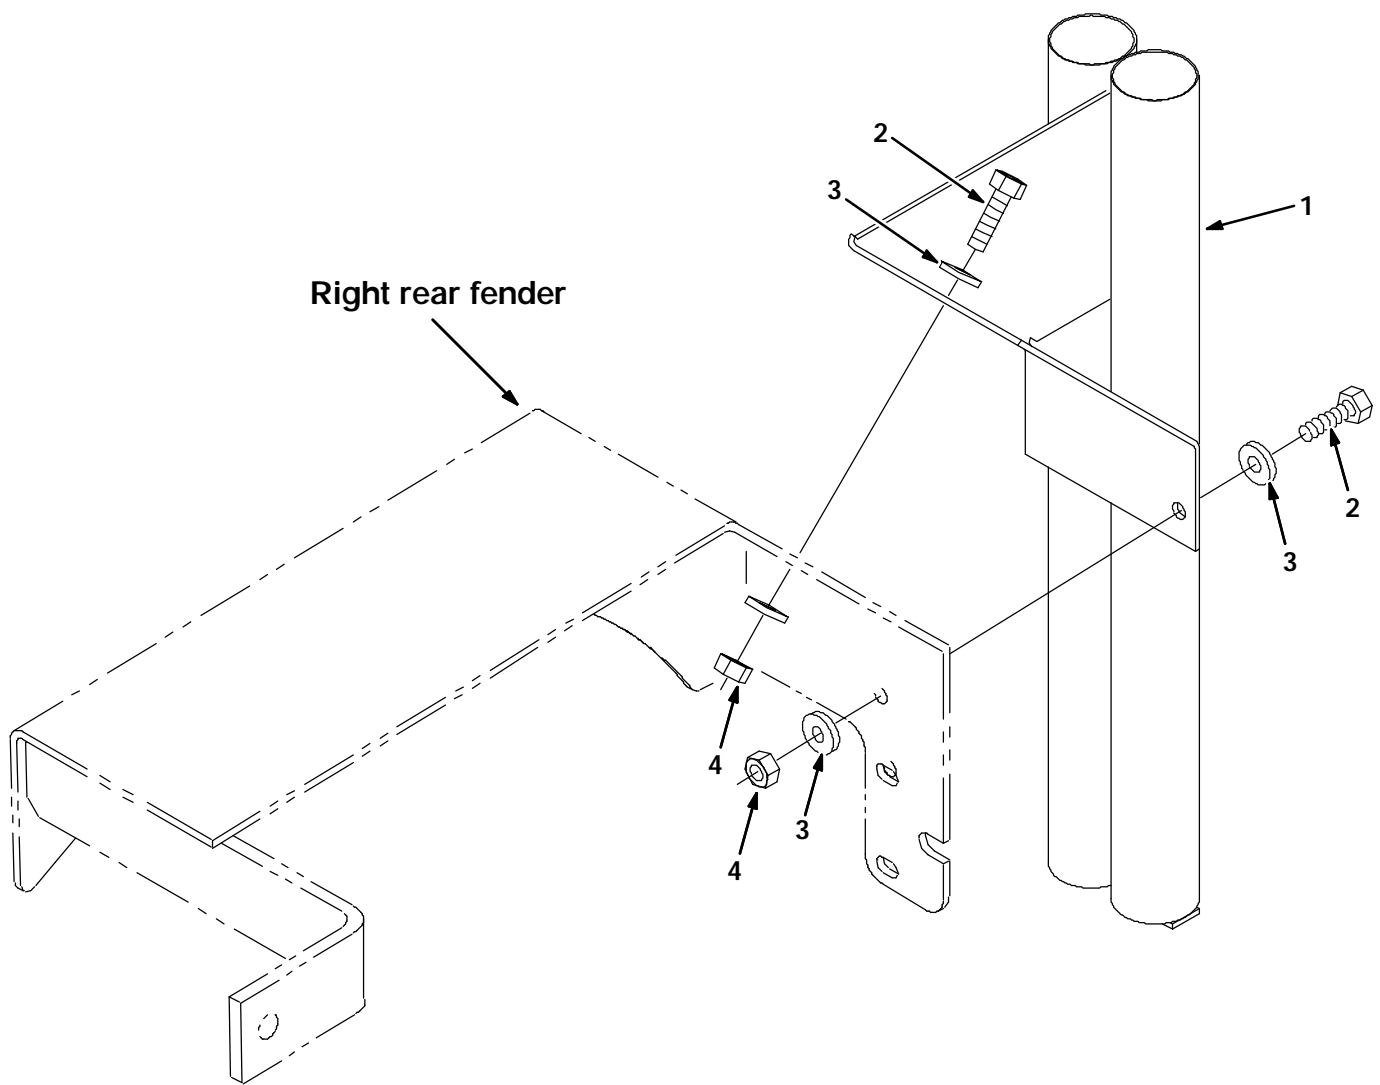

FIG. 1 - BROOM HOLDER KIT BREAKDOWN
(Refer to FIG. 1 and 2)
1. Place broom holder (1) in mounting position on fender, hanging approx .375in. over fender.
2. Using broom holder (1) as a template, mark two mounting holes in right rear fender of machine. (Refer to FIG. 1)
3. Drill two .34in. dia. (11/32) holes in rear fender in locations marked with template. (Refer to FIG. 1)
4. Mount broom holder (1) with hex screws (2), washers (3) and nuts (4). (Refer to FIG. 1 and 2)